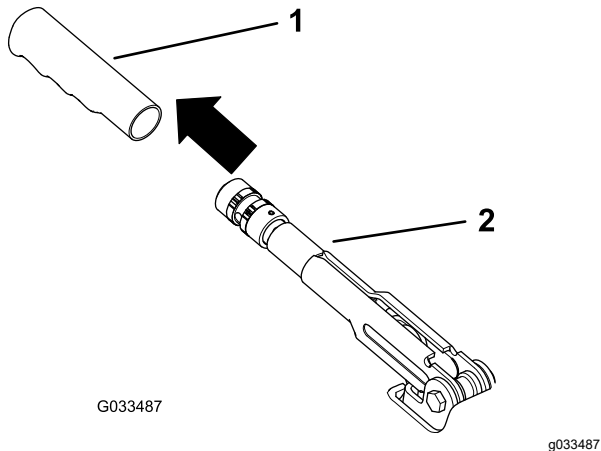

Figure 59
1. Remove the rubber grip from the parking-brake lever (Figure 59).
5. Install the rubber grip onto the parking-brake lever (Figure 59).